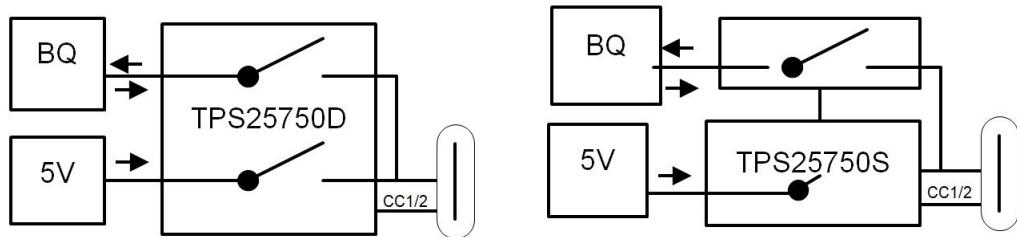

Figure 10-2. Power Source and Sink configuration with the Battery Charger (BQ)
Figure 10-2 shows the Power Source and Sink configuration when the Battery Charger (BQ) is connected to the high voltage power path.